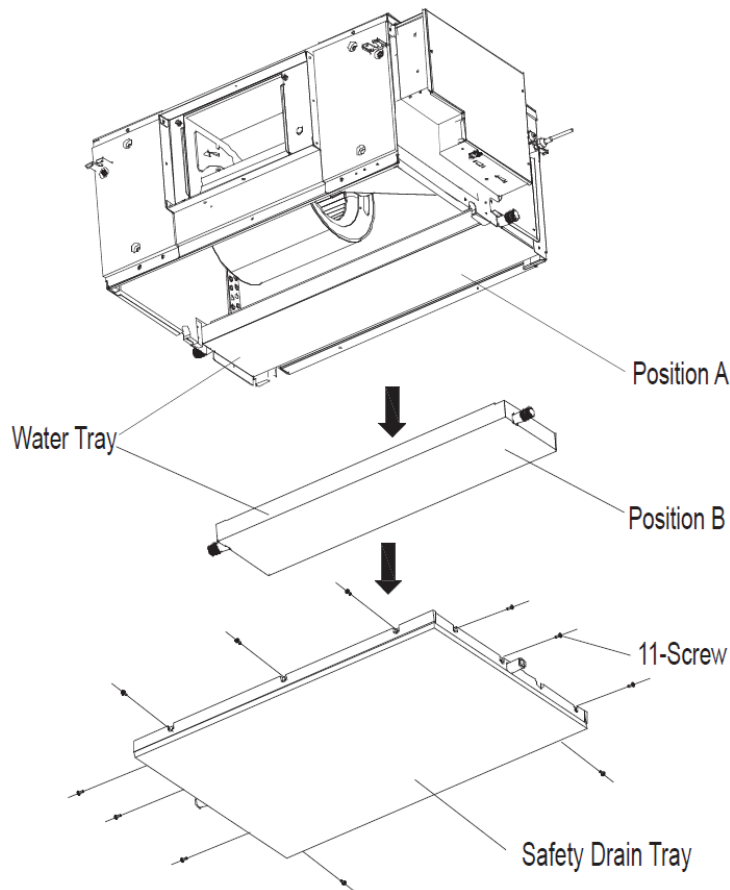

Fig. 29 — Fan Disassembly (009-024)
1. Remove the 11 screws from the Safety Drain Tray and remove the tray along the direction of the arrows in Fig. 29.